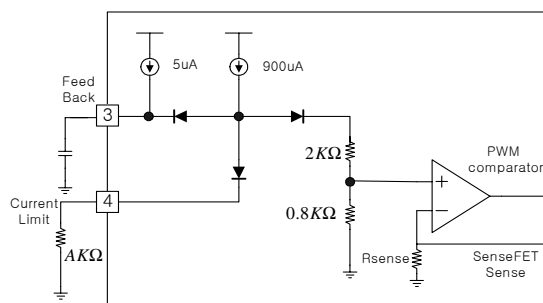

Figure 14. Peak current adjustment
8. Adjusting Current limit function: As shown in fig 14, a combined 2.8KΩ internal resistance is connected into the non-inverting lead on the PWM comparator. A external resistance of Y on the current limit pin forms a parallel resistance with the 2.8KΩ when the internal diodes are biased by the main current source of 900uA.